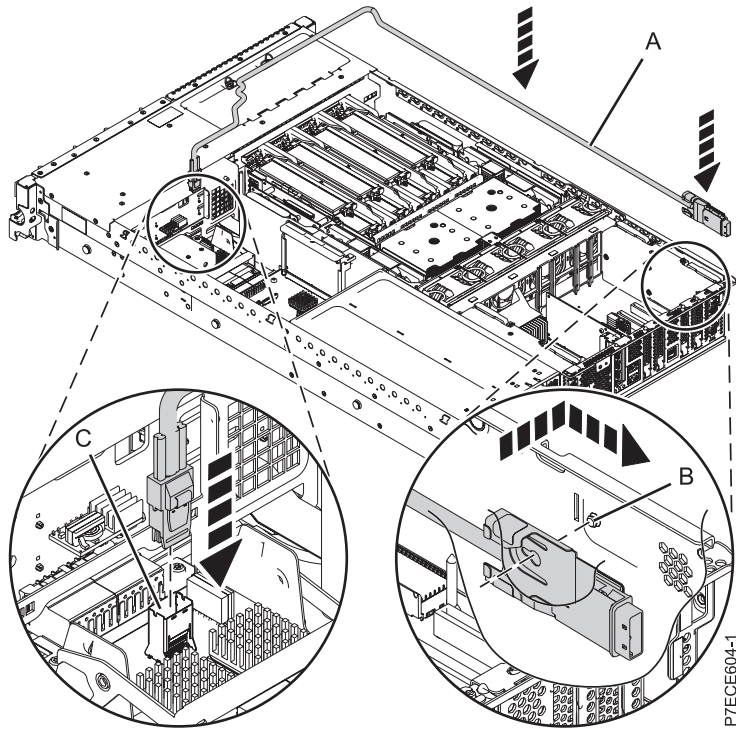

Figure 59. Replacing the SAS cable
- 1) Connect the mini-SAS connector of the SAS cable to the internal SAS connection port (C) on the storage interposer until it snaps in place. See Figure 59 on page 69.
- 2) Route the cable (A) in front of the memory riser cage, and along the channel in the side wall until the SAS port connector is near the opening on the rear of the chassis.
- 3) Align and guide the slot in the bracket of the SAS port connector (B) over the guide pin in the chassis, then slide the SAS port connector into the opening on the rear of the chassis until the tab on the bracket snaps in place.